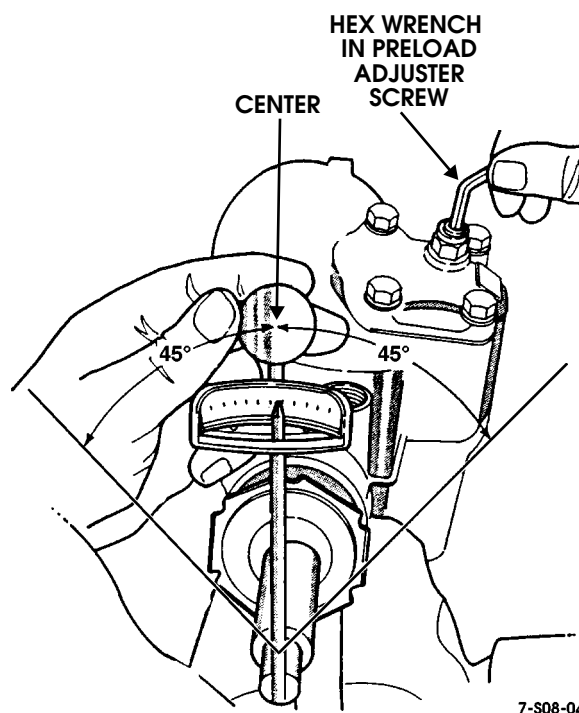

Figure 8-70: Checking / Adjusting Pitman Shaft Over-Center Preload
7. Back off adjuster plug to second index mark (Figure 8-70). Be sure hole in adjuster plug is aligned with second mark before proceeding.
- Position suitable size 12 point socket and inch pound torque wrench J-7754-C on stub shaft (Figure 8-70).